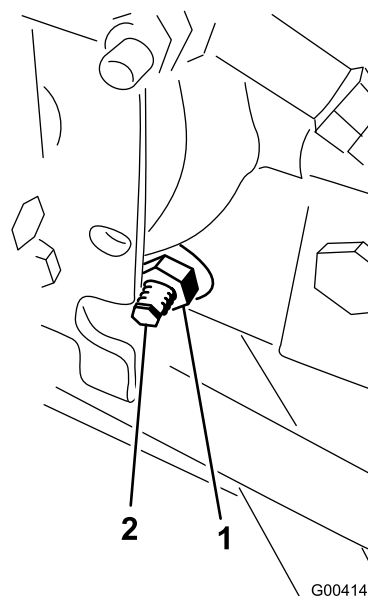

Figure 61
3. On the right side of the hydrostat, loosen the locknut on the traction-adjustment cam (Figure 61).